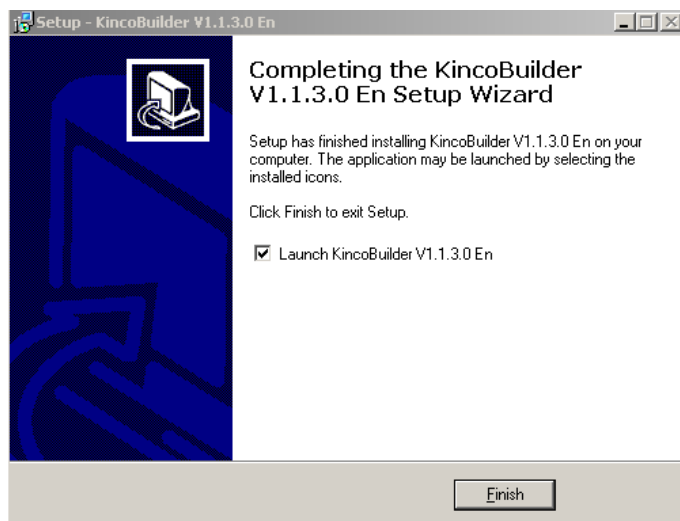

Figure 3-6
- ⑥ Click *Install*, KincoBuilder shall be installed on your computer, and there will be a prompt after the installation is finished, as shown in Figure 3-6: